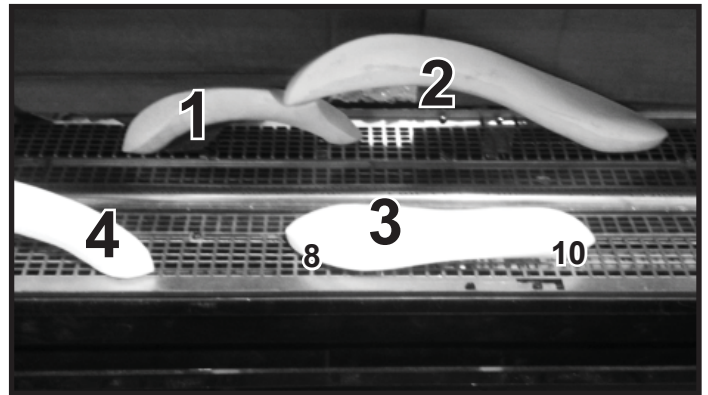

Figure 8. (SRV2310-753)
9. **(SRV2310-753):** Install Log #3 onto the shoulder screws by aligning the log placement holes with shoulder screws #8 and #10. See Figure 8.